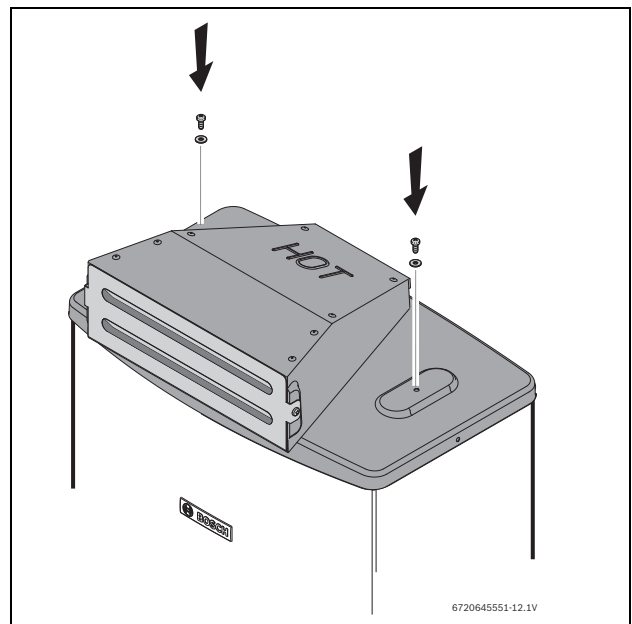

Fig. 11
- Attach the outdoor vent cap to the appliance by fastening the two provided screws and washers, see Fig. 11.